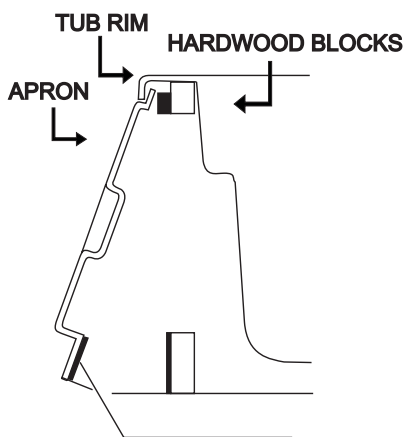

FIGURE 12
4.1 Before installation of skirt, be sure the hardwood blocks underneath the bathing fixture are properly attached. *(See Figure 12)*
4.2 Check and see that there are no obstructions between the hardwood blocks and the lip or rim of the bathing fixture. *(See Figure 12)*
skirt from fitting properly underneath the rim of the bathing fixture. Take care not to cut yourself or knock the hardwood blocks from underneath the bathing fixture rim. *(See Figure 12)*
4.4 Kneeling in front of the bathing fixture, position the skirt just underneath the rim or lip of the bathing fixture in front of the hardwood blocks. *(See Figure 12)* Note: The top of the skirt has recessed corners.